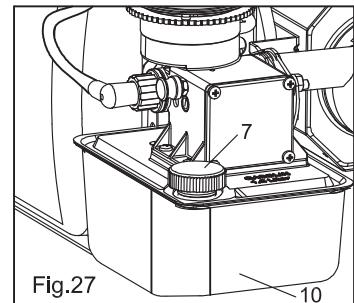

Fig.27
- h) Empty fuel tank (10) when the fogger is cold. Leave the cap (7) loose to allow vapours to escape. (Fig. 27)